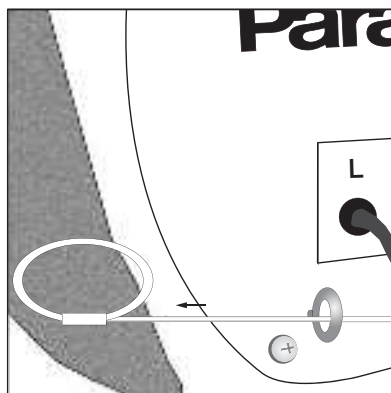

Fig. 8
2. Feed the looped end of the security cable (the end without spike attached) through the factory-installed eyelet, until you are able to feed spike through (see next step). (Fig. 8)